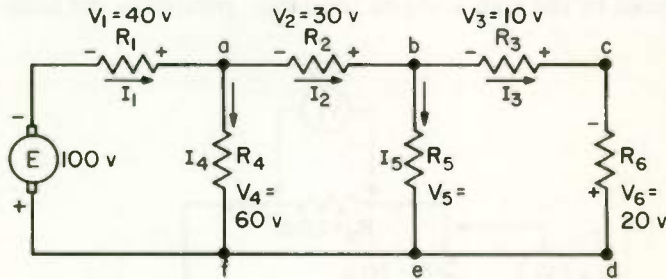

Fig. 21
7. Starting at the negative terminal of the 100-volt generator in Fig. 21 and walking in the direction of current flow through R_1 to a to b to c to d to e to f and back to the positive side of the voltage source, the sum of the voltage drops walked through is (a) _____ volts. Starting again from the negative side of the voltage source and walking the shorter path through R_1 , through R_4 to f and back to the positive side of the voltage source, the sum of the voltage drops walked through is (b) _____ volts. The voltage drop across R_5 is (c) _____ volts.